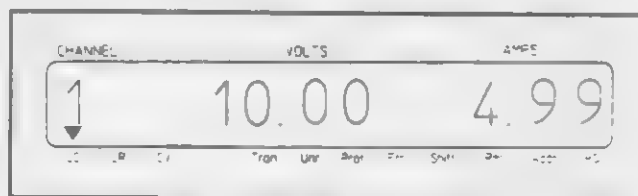

Figure 3-7. Power Test Display
4. Observe that the Electronic Load is drawing 5 A and is operating in CC mode. The power supply should be operating in CV mode. The Electronic Load front panel display should appear about the same as the one shown in Figure 3-7.